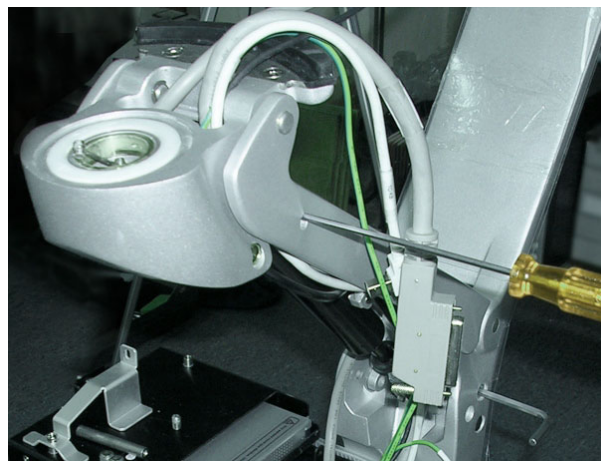

Figure 8-257 Supporting the Upper Gas Spring Bracket with a Screwdriver
- 5.) Similarly, tap out the upper gas spring securing pin and use a screwdriver to support the joint - Figure 8-257.